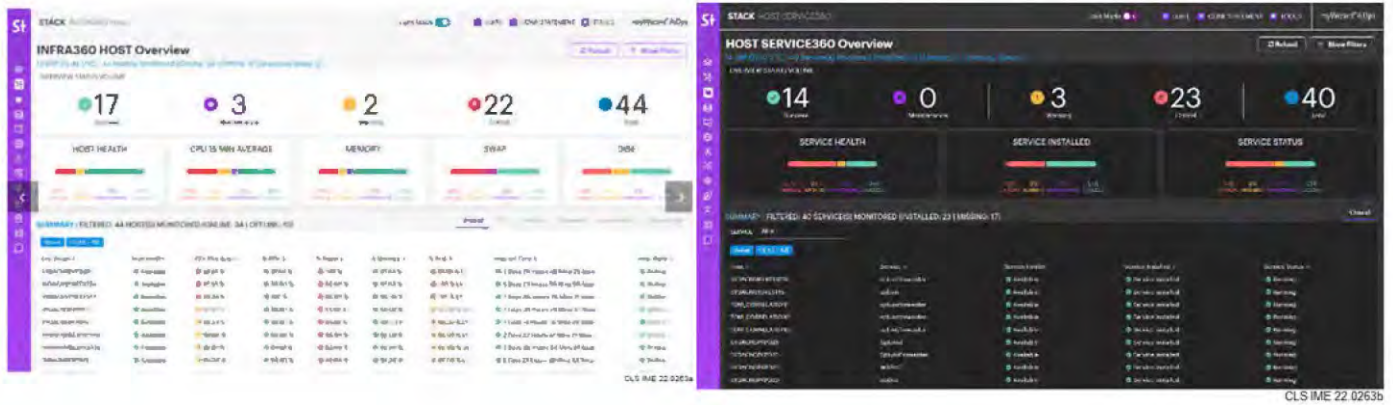

Figure 4-15. INFRA 360 and HostProcess 360 dashboards provides a consolidated data view.
1. Monitoring & Data Capture: We have multiple ways to monitor the underlying infrastructure layer to make sure we capture data from the Database(s), Cloud, Infrastructure (i.e., Network, Servers, etc.) and DevSecOps. This data is captured and further processed by our AI-based tools to get meaningful insights. For example: INFRA360 unifies fault, availability, and performance monitoring of infrastructure. It provides a consolidated view of the complete network infrastructure. Another example: HostProcess360, is a Windows and Linux Service monitoring tool that provides support teams with a deep service status and name insight (Figure 4-15).
2. Observability: Observability through open telemetry will be extended and integrated into the common Operational Technology (OT) edge devices to create our industrial operations Data Fabric. This will be our key layer to enable Intelligent Automation.